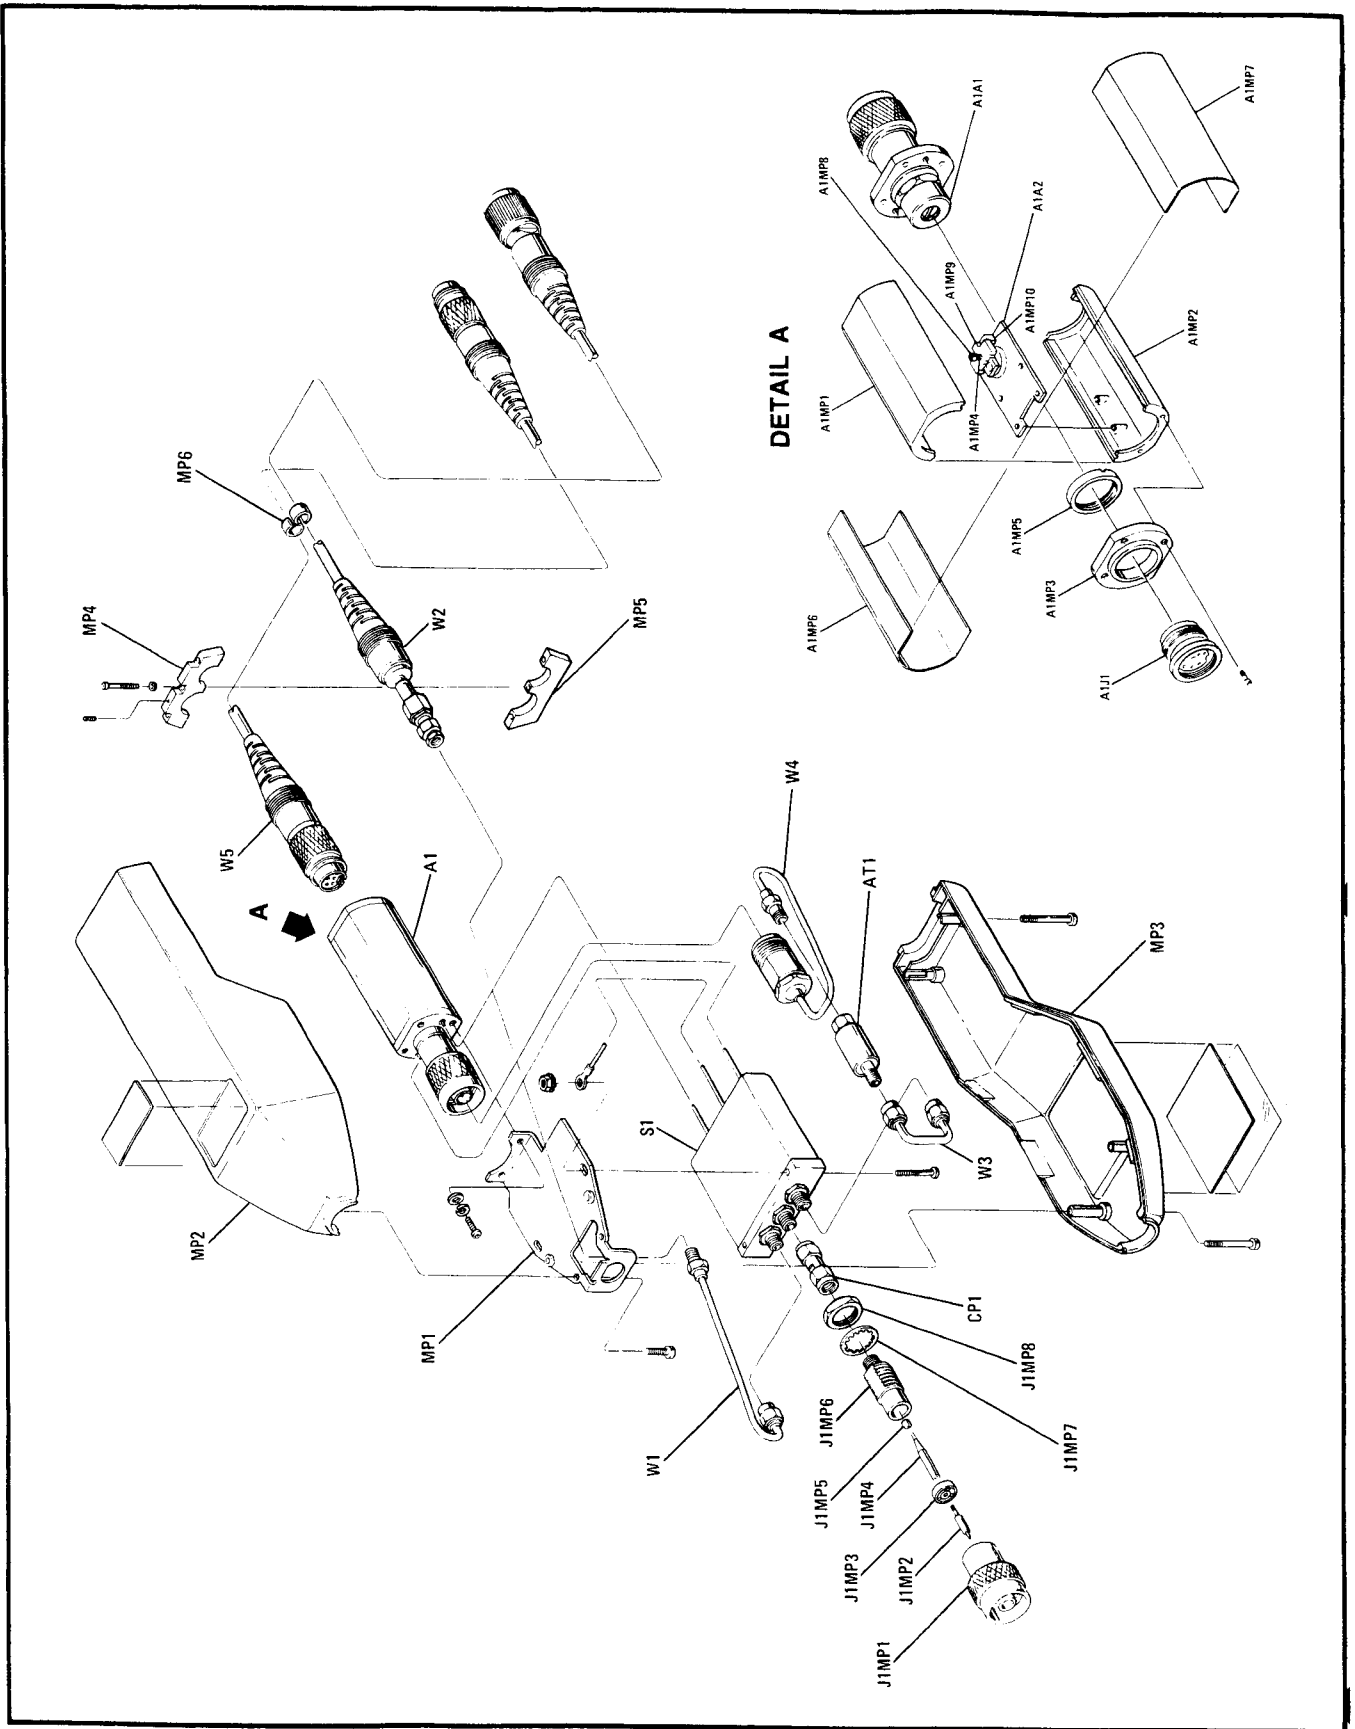

Figure 6. Sensor Module Exploded View
1. Remove four screws and plastic bottom cover MP3 from module assembly. (See Figure 6, "Sensor Module, Exploded View".)
12. Unscrew hex nut J1MP8 from RF connector J1. (See Figure 6.)
7. Connect CP1 to J1 and tighten. Note that if J1 has been disassembled, a conductive epoxy adhesive, such as HP part number 0470-0015, should be applied to the connection between the RF connector contact J1MP2 and the contact jack J1MP4. (See Figure 6, "Sensor Module, Exploded View".)
1. Place printed circuit board A1A2 and connector A1J1 into the bottom cover. (See Figure 6, "Sensor Module Exploded View".)
7. Solder the white/black/blue wire (906) to A1C1 and the white/brown/green wire (915) to A1C2.